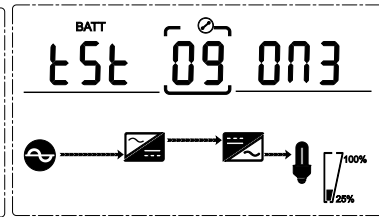

Fig. 4-23 Autotest ON3
- When choosing **ON3**, UPS can transfer to Battery Mode automatically per 30 days. And the Battery Self-test time is to **End Of Discharge (EOD)** (Fig. 4-23).